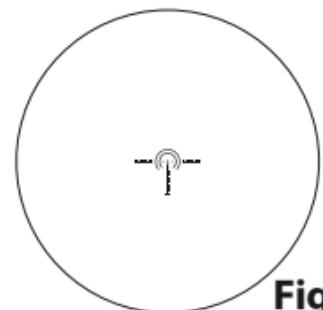
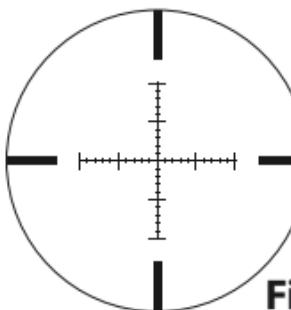
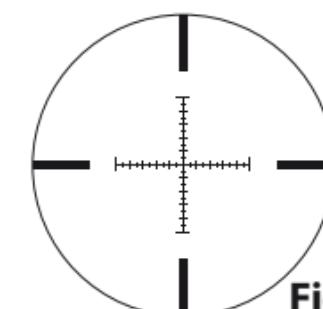

Fig. 3-4
Fig. 3-5
Fig. 3-6
(2) Focusing
- ① Look through the eyepiece with your eye positioned about 10 cm (4 in.) away from the eyepiece to see the SPEEDFORCE reticle (Fig. 3-4), the X-MOA reticle (Fig. 3-5), or the X-MRAD reticle (Fig. 3-6). Be sure your eye is positioned with proper alignment and with proper eye relief, otherwise the view will "black out."
- ② Point the objective end of the scope at the sky (do NOT point it at the sun) or at a plain unpatterned wall.
- ③ Turn the eyepiece adjustment counter-clockwise and then turn it clockwise until the reticle appears sharp.